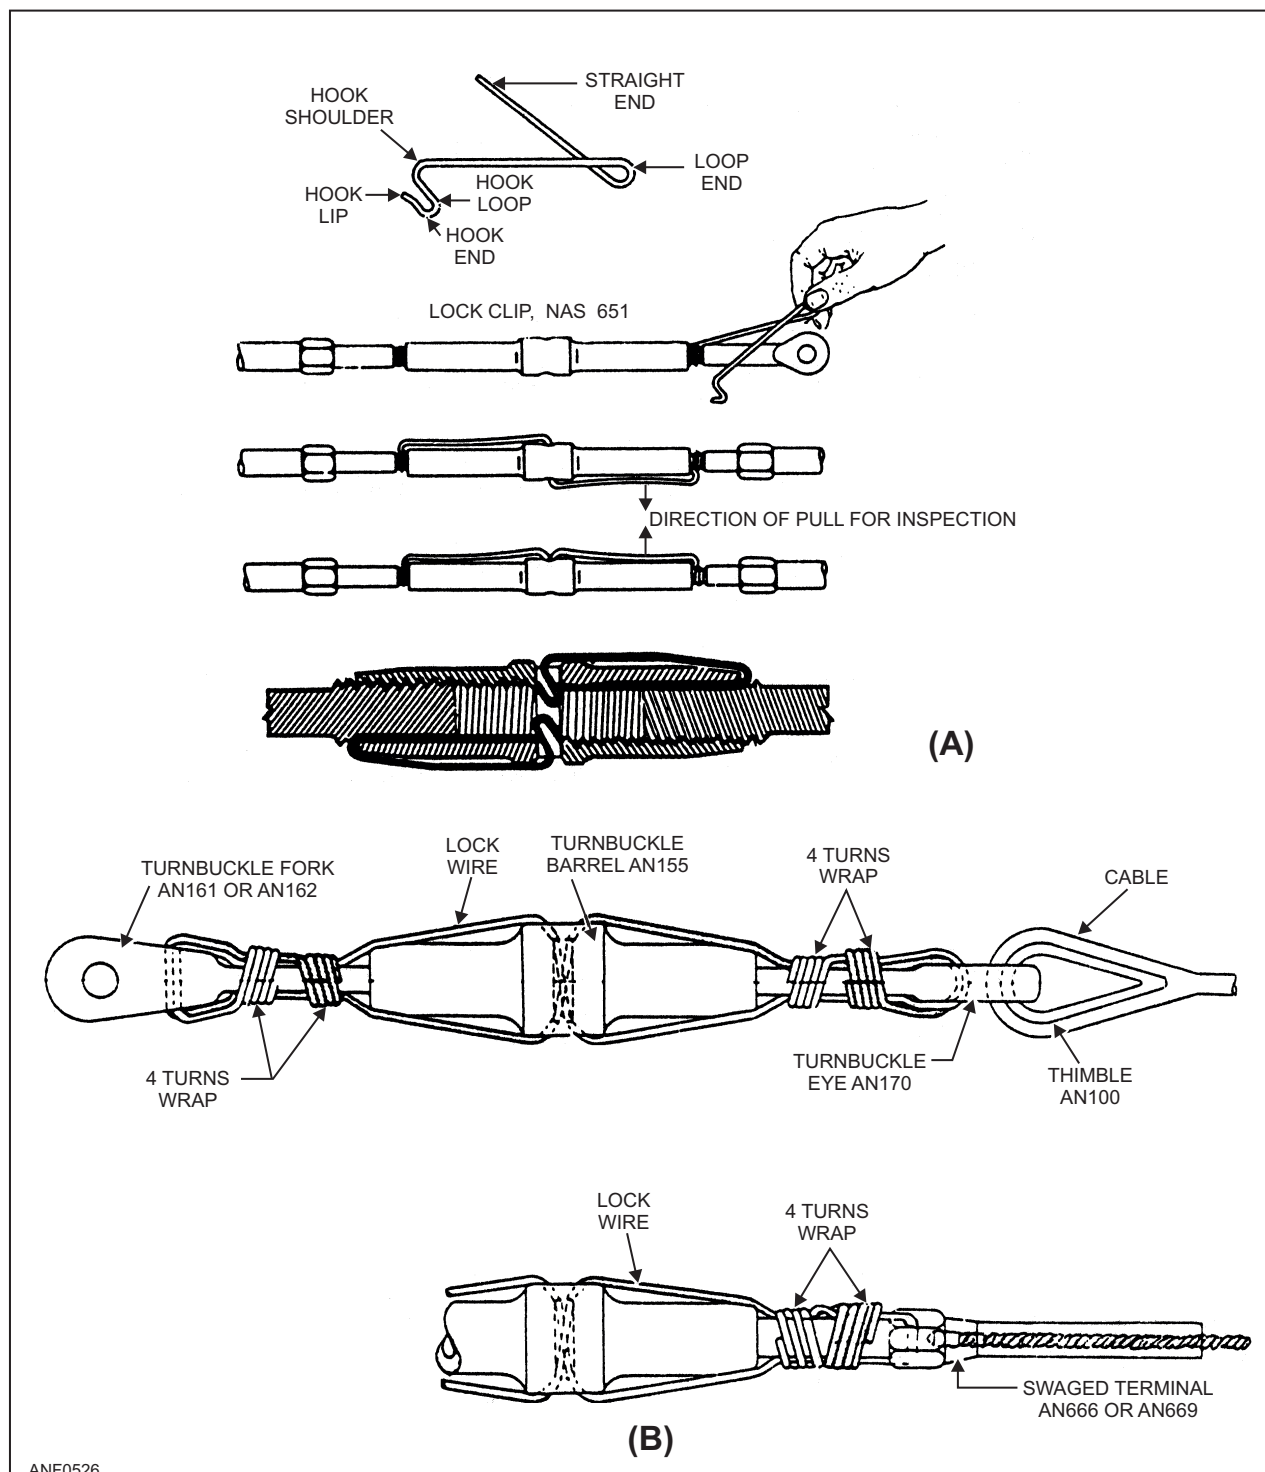

Figure 5-26.—Safetying turnbuckles. (A) Clip-locking method; (B) wire-wrapping method.
(A) and (B) of figure 5-26. The clip-locking method is used only on the most modern aircraft. An example of an aircraft using this method is the EA-6B. These aircraft use a turnbuckle that is designed for use with the wire clip. The older type of aircraft still use the turnbuckles that require the wire-wrapping method.